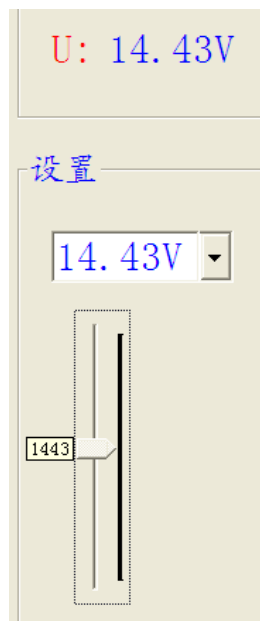

Figure 29
C. set voltage slider input: Hold the sliding handle the position of need data as figure 29